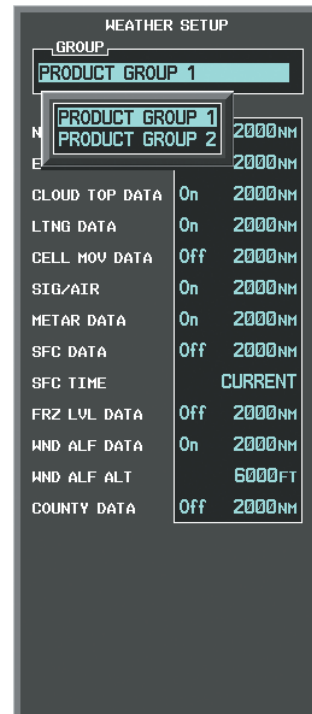

Figure 6-6 Weather Data Link (XM) Page Setup Menu
- 4) Turn the small **FMS** Knob to select 'PRODUCT GROUP 1' or 'PRODUCT GROUP 2', and press the **ENT** Key (Figure 6-6).
- 8) Press the **FMS** Knob or **CLR** Key to return to the Weather Data Link (XM) Page with the changed settings.